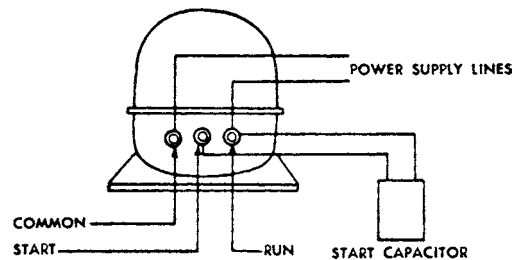

Fig. 12-31 Location of start capacitor in a circuit. (Tecumseh)
- b. Using proper start capacitor from the manufacturer’s chart, connect one capacitor terminal to R. Let the lead from the other capacitor terminal dangle loose. See Fig. 12-31.